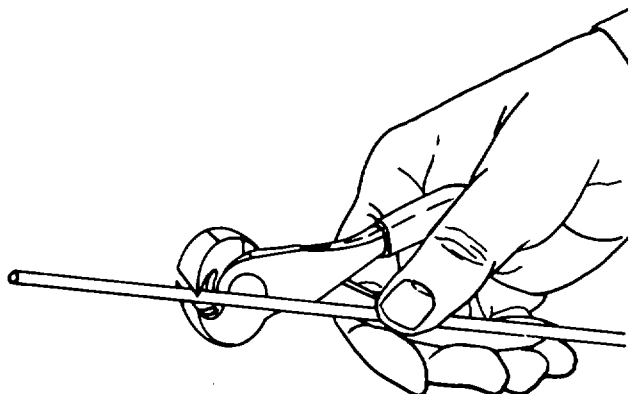
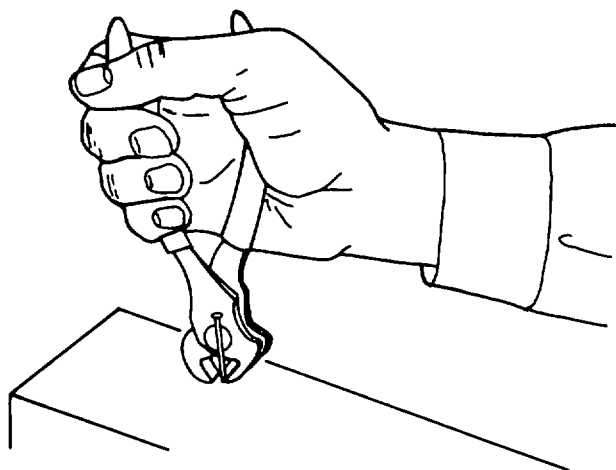

Figure 4-112. Cutting Wire
Figure 4-113. Flush Cutting
a. Use. Nippers and pincers, as previously stated, are used to cut wire, bolts, rivets, nails, and other similar items. Figure 4-112 illustrates the technique for cutting wire, and figure 4-113 shows the procedure for cutting a rivet or similar object flush with the surface.